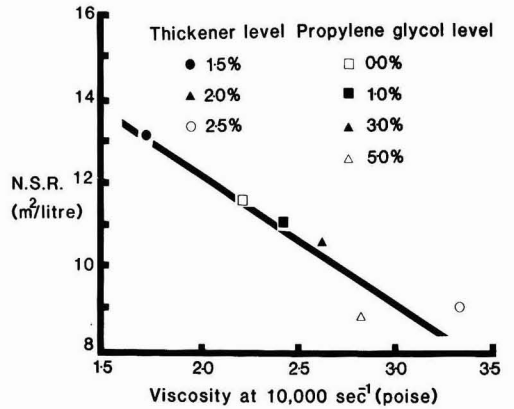

Figure 7—Influence of thickener and propylene glycol levels on paint viscosity and NSR
The opacity values given in Tables 4 and 5 indicate that a one coat, stain-free paint could not be easily obtained unless spreading rates of the order of 10 m²/L and less were obtained. Since the high-shear viscosity of a paint determines spreading rate, an obvious means of achieving a lower spreading rate is to increase the level of thickener. To illustrate this, 45% PVC paints were formulated according to the basic details given in Table 1 (pigment A, calcined china clay extender and thickener Z) except the level of thickener was varied from 1.5% to 2.5%, based on weight of paint, by 0.5% steps. Table 8 shows the effect of thickener level on paint performance where high-shear viscosity, NSR, opacity at NSR, and application rating are given. The results indicate that as the thickener level is increased there is an inevitable increase in paint viscosity and a corresponding decrease in spreading rate. These two parameters are plotted in Figure 7 to illustrate the correlation. Also, it can be seen that a thickener level of 2.5% is required to produce a sufficiently low spreading rate (i.e., 9.0 m²/L) so that 98% contrast ratio is achieved, but at this level, the ease of application rating is 4. On ease of application, the ratings used covered a broad spectrum of paints (i.e., different high-shear viscosities) and as a result the assessment is not particularly sensitive. However, from a separate evaluation which is not reported in this paper, it was evident that the maximum high-shear viscosity of a paint that could be tolerated for brush
An alternative way by which the viscosity of paint can be slightly modified is to change the amount of propylene glycol, and by doing so perhaps modify the wet edge time of the paint. To examine this option, the basic formulation given in Table 1 (pigment A, calcined china clay extender and thickener Z) was used to make paints which contained propylene glycol levels of 0%, 1%, 3%, and 5% on weight of paint. The performance of these paints is illustrated in Table 9, where it is evident that increasing the level of glycol produced the expected increase in viscosity, decrease in spreading rate, and corresponding increase in opacity. The viscosity and NSR values have been plotted in Figure 7 in order to show the correlation between these two parameters. It can also be seen from Table 9 that there has been an improvement in wet edge by increasing glycol level from 0% to 1%, but the effect was not progressive with increasing glycol level. As shown above, these results suggest that as soon as the viscosity of the paint is sufficiently high to produce the required film build opacity (i.e., see 5% propylene glycol level) the ease of application becomes unacceptable. However, one interesting aspect of this work which is specific to the type of thickener (Z) used, was that increasing the level of propylene glycol produced a small decrease in CLA value (i.e., in going from 0% to 5% propylene glycol, CLA decreased by 0.3 μ m) which indicates that there was a small improvement in flow and leveling.